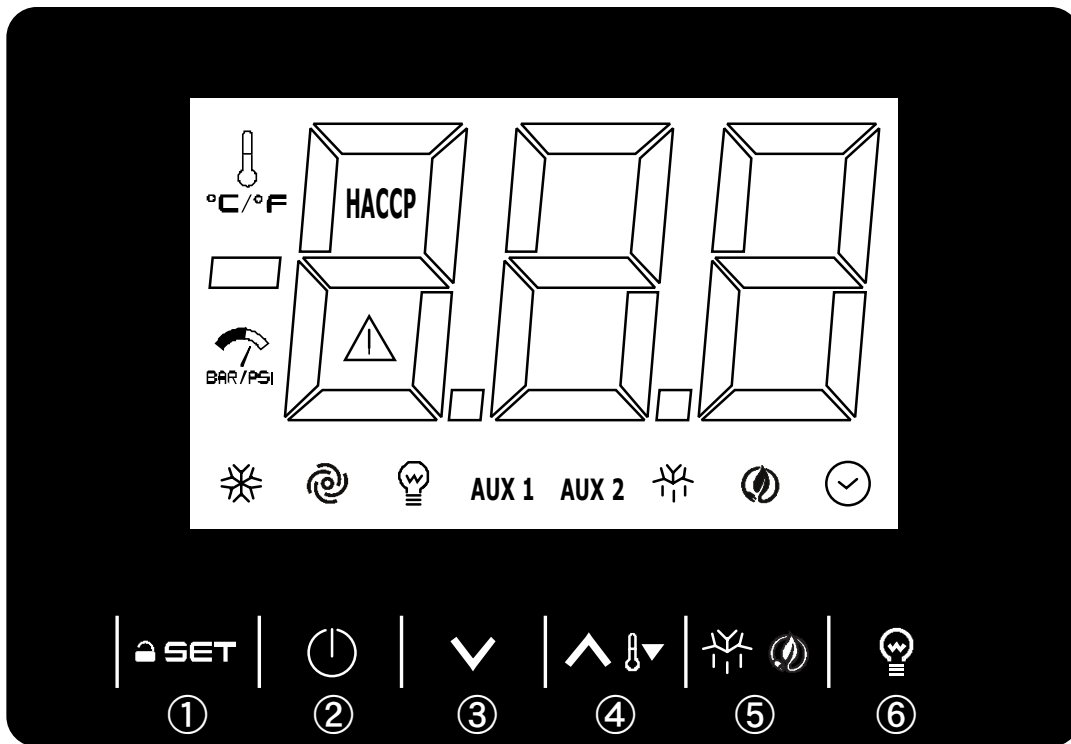

Fig.3
9.1 Description of the controls and buttons (Fig. 3)
Start-up sequence (fig.3).
9.2.2 Stopping methods (fig.3)
▶ press the on-off button (1) for 5 seconds	the display and the cabinet will turn off
9.2.3 adjustment of the internal clock to the current time (fig. 3)
9.2.4 Setting the temperature (Fig. 3)
9.2.5 Automatic and manual defrost (Fig. 3)
9.2.6 Keypad lock (fig.3)
9.2.7 Turning the light on / off (fig. 3)
► Light is turned on and off automatically when the door is opened and closed. Touch the LIGHT key ⑥ to keep the light on.